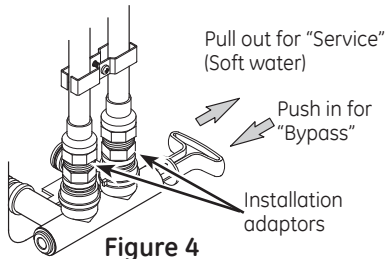
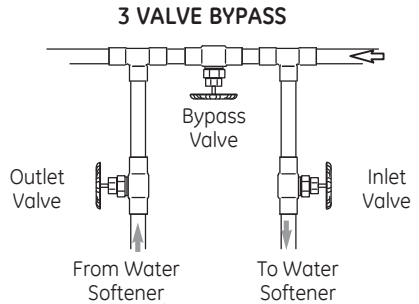

Figure 4
Figure 5
Always install either a single bypass valve (provided), as shown in Figure 4, or, if desired, parts for a 3 valve bypass system (not included) can be purchased and assembled, as shown in Figure 5. Bypass valves allow you to turn off water to the softener for maintenance if needed, but still have water in house pipes.
2. Place the bypass valve (single or 3 valve) into the "bypass" position. See Figures 4 and 5.
- Single bypass valve (Figure 4): Slowly move the valve stem toward "service," pausing several times to allow the water softener to fill with water.
- 3 valve bypass (Figure 5): Fully close the bypass valve and open the outlet valve. Slowly open the inlet valve, pausing several times to allow the water softener to fill with water.